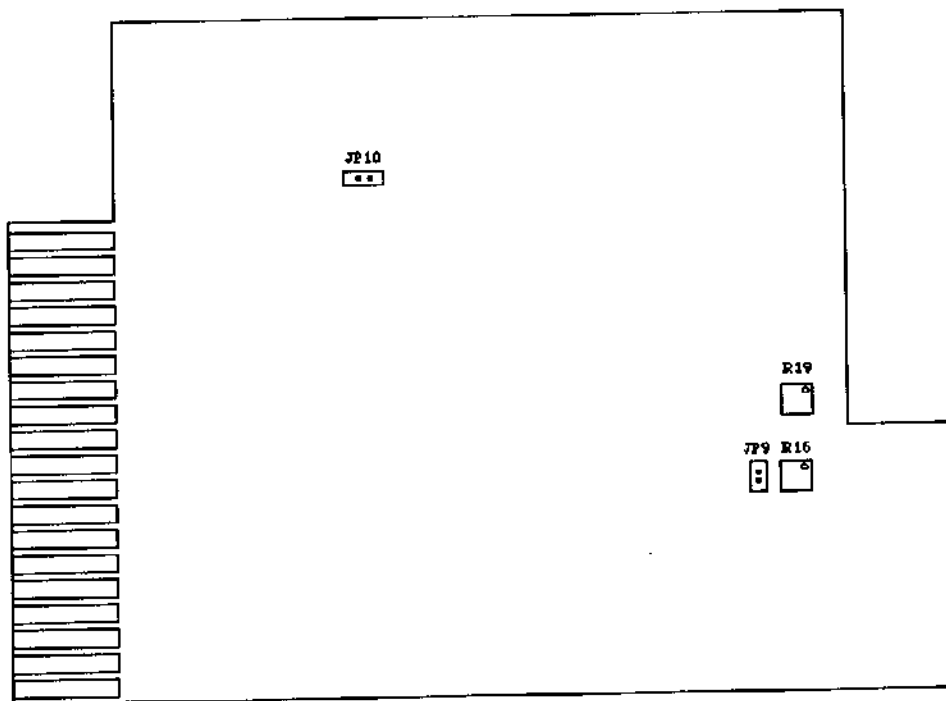

Figure 4
The CLOCK signal enters into a High Speed double comparator whose thresholds are fixed at -400 mV for the NIM signals and at +2 V for the TTL signals. Since these thresholds can be changed via the 2 trimmers, R16 and R19 (see fig 4), the Module C 423 can also function with a CLOCK signal which does not re-enter into the NIM or TTL standards.
2. Verify that JP10 is omitted, JP9 (see fig. 4) is fitted and SW1 (see fig. 4) is configured as supplied by CAEN (see par. 2.3).
8. Perform an F(0) N function: the value read on the READ Lines must be equal to 0.
9. Perform an F(1) N function: on the READ lines R1 to R3 a logic level "0" must be read, the READ Lines R4 to R24 are not significant.
10. Perform an F(5) N function: the value read on the READ Lines must be equal to 0.
11. Perform an F(27) N function and verify that X response is true and Q response is false.
12. Perform an F(8) N function and verify that X response is true and Q response is false.